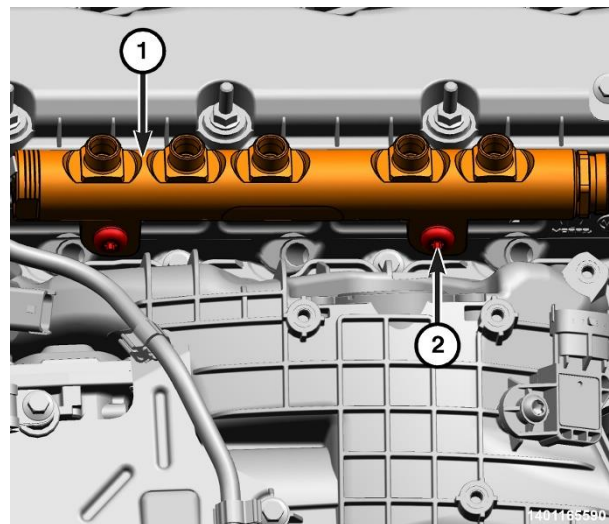

Figure 130 – Right Fuel Rail
68. Using the Remover-Installer, Fuel Rail Bolt 2025400090, remove the right fuel rail bolts (2) and the right fuel rail (1) (Figure 130).